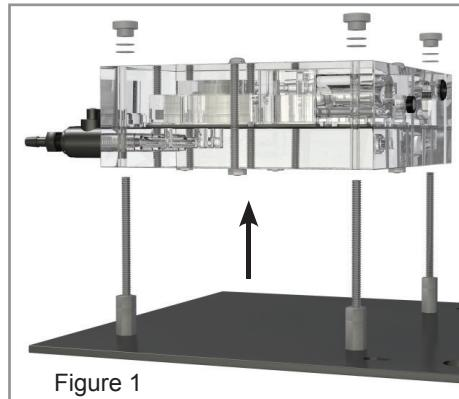

Figure 1
- Step 6.** Remove the flow cell from the panel by removing the knurled nuts (Figure 1).